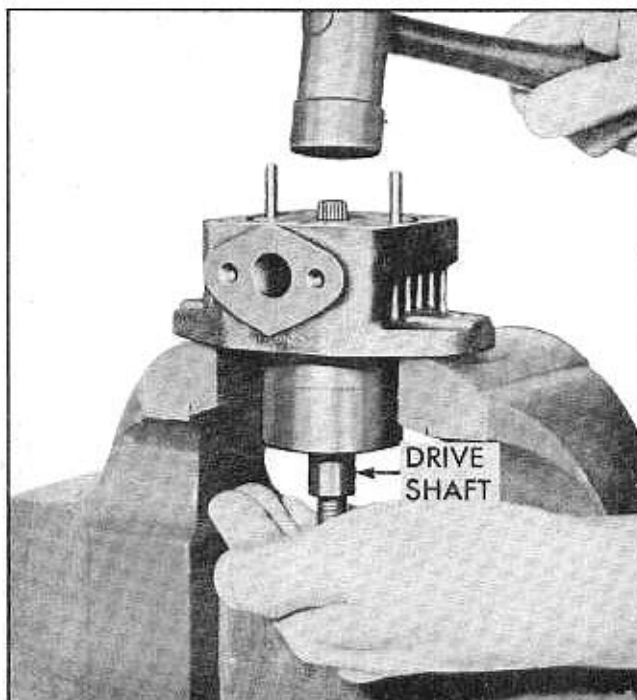

Fig. 9-79 Removing Pump Drive Shaft and Bearing from Pump Body
14. Remove drive shaft with large sealed bearing by lightly tapping on splined end (Fig. 9-79).